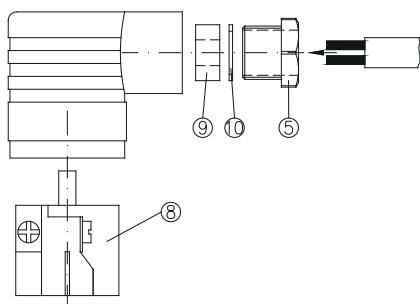

Fig. 8
- ↳ Insert the supply cable through the screwed cable gland ⑤, the pressure ring ⑩ and the rubber insert ⑨ into the cable socket ② (→ Fig. 8).